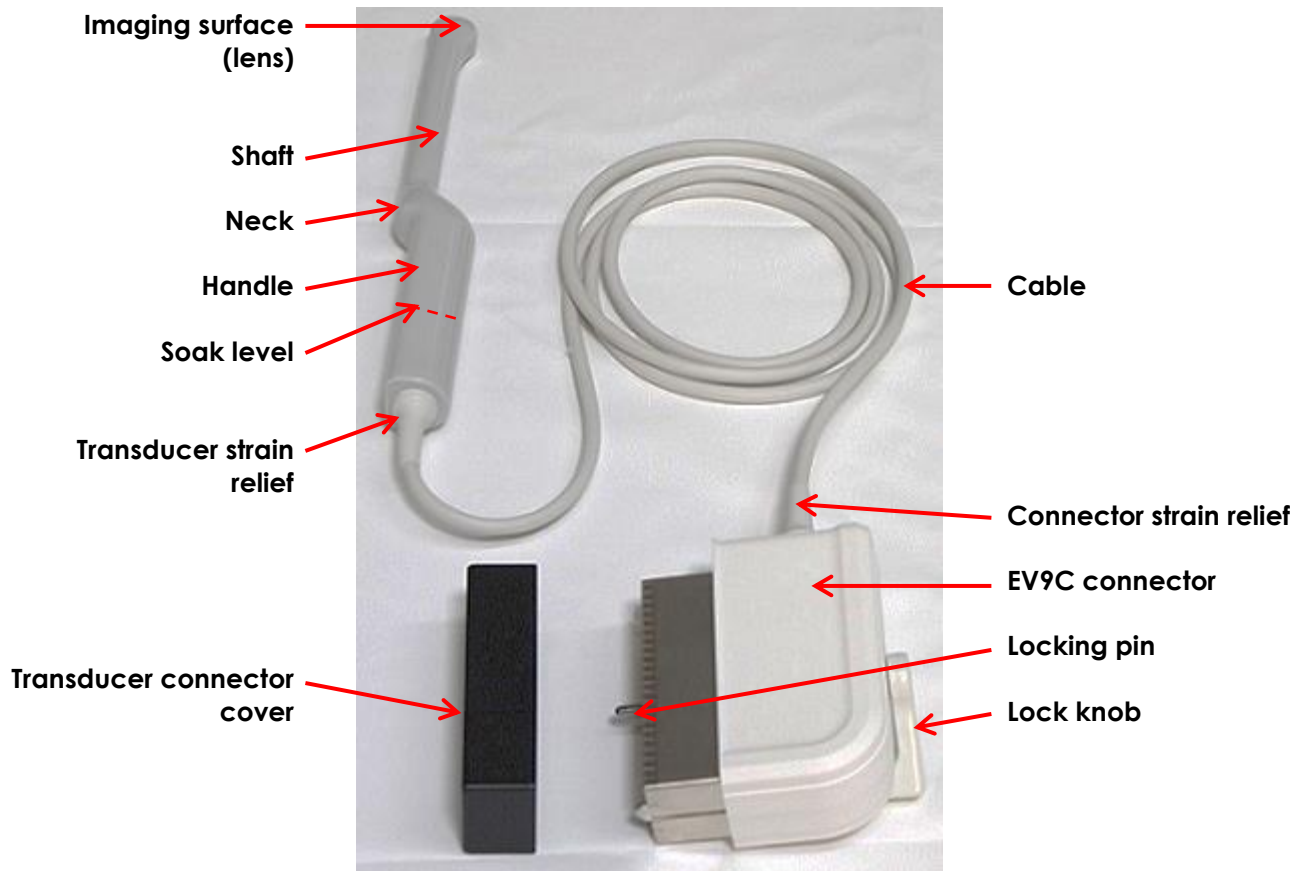

Figure 11: Exact Imaging EV9C Transducer
This procedure calls for washing, soaking and rinsing the transducer in various solutions. In all cases, the transducer should be exposed to solution levels that are approximately half-way up the handle (refer to *soak level* in Figure 11).
- The parts of the EV9C transducer that do not come into contact with the sheath during a TRUS procedure, or in other words, the part of the transducer that is above the *soak level* (refer to Figure 11).
In this procedure, *above the soak level* means the direction away from the imaging surface (refer to Figure 11).
- The parts of the EV9C transducer that come into contact with the sheath during a TRUS procedure, or in other words, the part of the transducer that is on or below the *soak level* (refer to Figure 11). For parts above the *soak level* (including the cable), refer to section 3.
- Fill the *cleaner container* with a sufficient volume of cleaning solution for the EV9C transducer to be immersed to the *soak level* indicated in Figure 11.
- Immerse the EV9C transducer in the cleaning solution to the *soak level* indicated in Figure 11.
- Fill the high-level disinfection container with a sufficient volume of high-level disinfectant for the EV9C transducer to be immersed to the *soak level* indicated in Figure 11.
- Immerse the EV9C transducer in the high-level disinfectant to the *soak level* indicated in Figure 11.